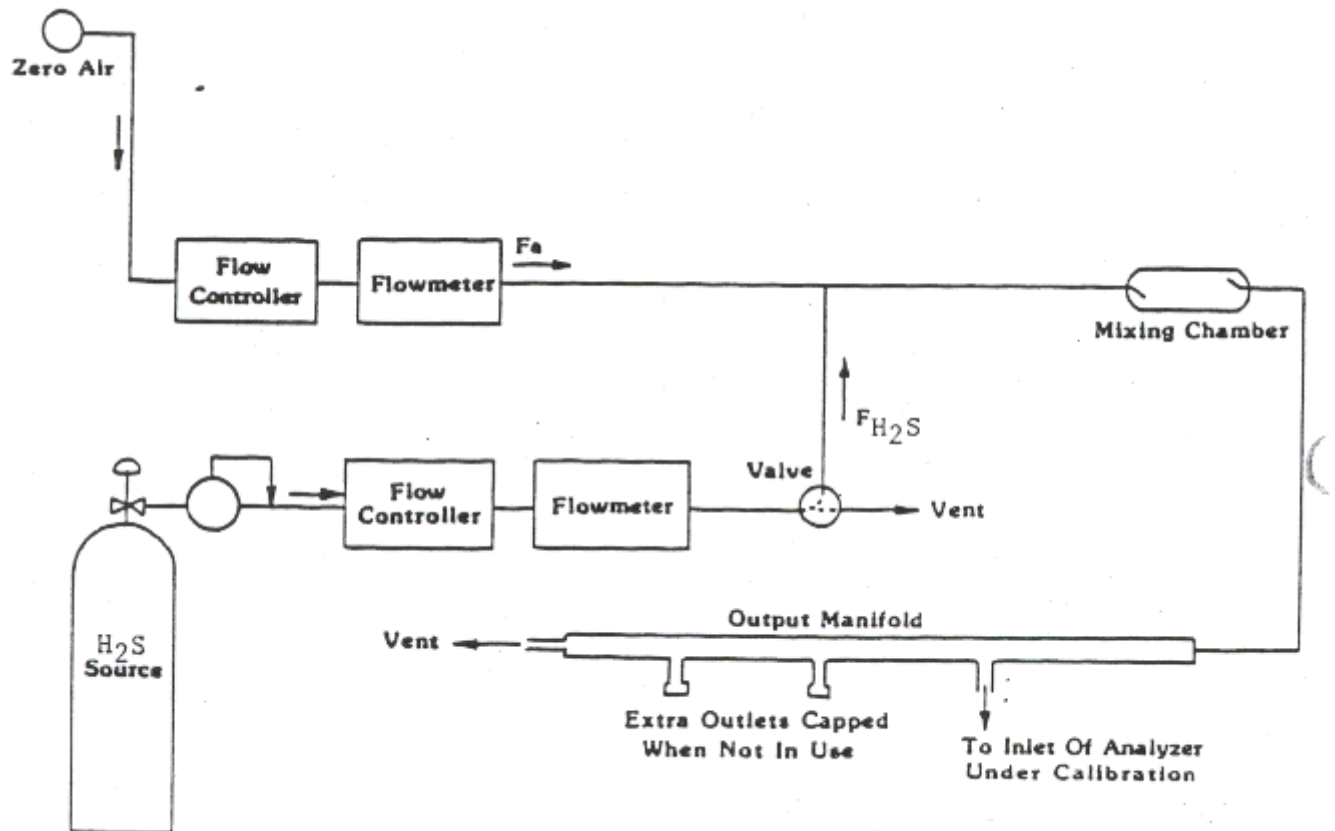

Figure O.3.0.2
O.3.0.2 APPARATUS - Figure O.3.0.2 is a schematic of a typical H_2S dynamic calibration system. Connections between components in the calibration system downstream from the H_2S cylinder should be of glass, FEP Teflon*, or other non-reactive material.